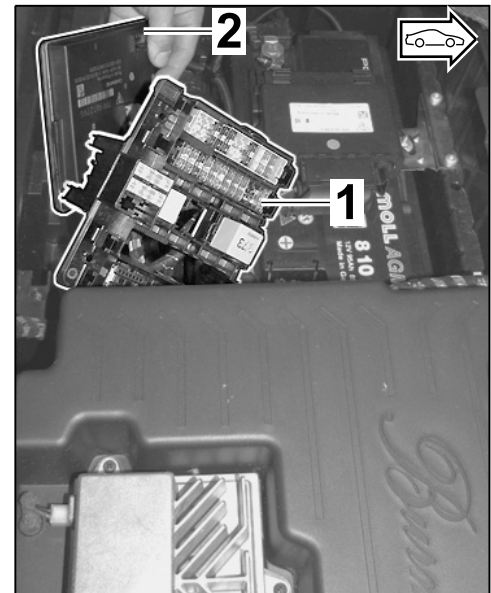

Figure 19
- 3.2.1 Remove rear-end electronics control unit (⇒ *Workshop Manual '578919 Removing and installing control unit for rear-end electronics'*, ⇒ *Figure 19*).